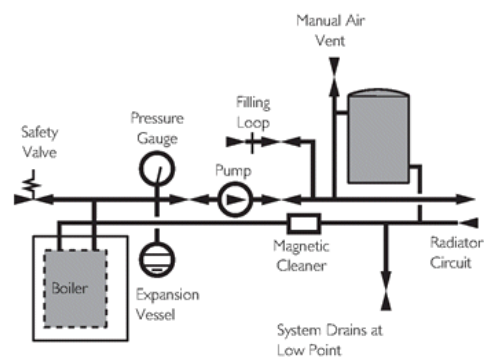

Fig. 8
6.6 Sealed Systems Details (Fig. 8)